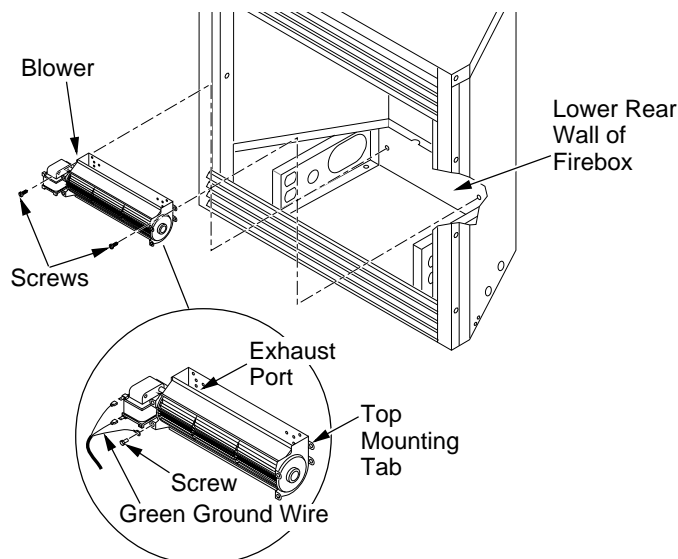

Figure 14 - Mounting Blower to Firebox (VTGF33NR/VTGF33PR Shown)
3. Attach green ground wire from power cord to blower housing using screw provided (see Figure 14). Tighten screws securely.
4. Place the blower against lower rear wall of firebox outer wrapper with the exhaust port directed upward. Align the holes in top mounting tabs of blower with holes in wall of wrapper (see Figure 14). Using 2 screws provided, mount blower and tighten screws securely.